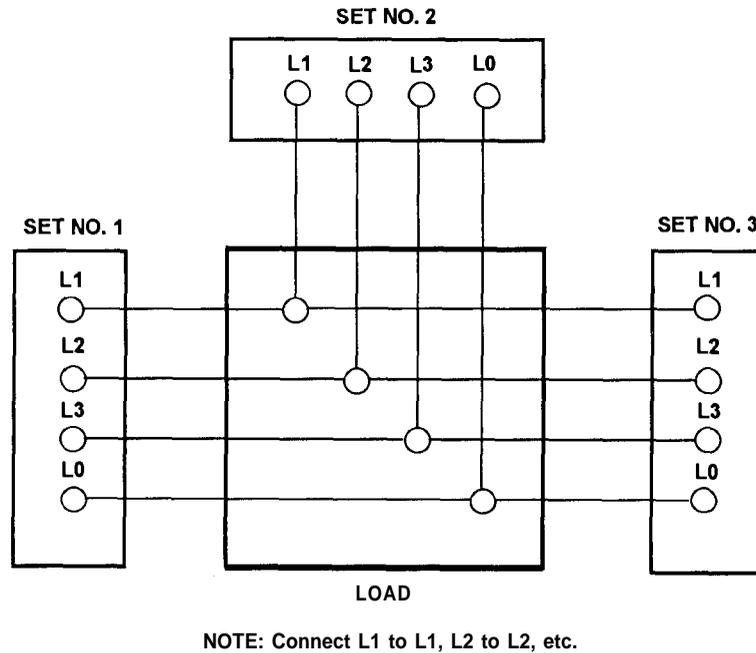
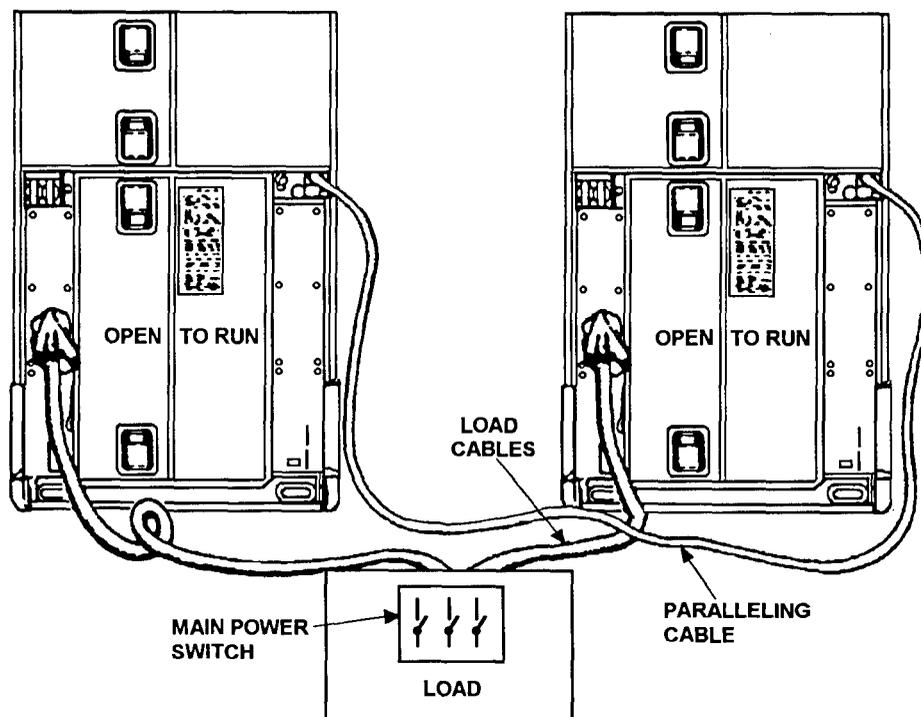

Figure 2-5. Parallel Connection
Figure 2-6. Paralleling for Load Transfer
- e. Connect load leads and paralleling cables as shown in Figure 2-5 and Figure 2-6.
**Check that the main power switch (Figure 2-6) at the load is open before attempting to place a generator set on line. Equipment damage could result if caution is not observed.**
Observe the synchronizing lights of the "on-coming" set. The lights should go on and off simultaneously. If the lights go on and off alternately, sets are out of phase. Stop both sets and correct interconnect cables (Figure 2-5). If the problem persists, refer to next higher level of maintenance.
Visually check that the power cable and parallel cable are in accordance with Figure 2-6. If the cables are not attached as indicated, shutdown the "on-line" set and follow instructions in paragraph 2-9.